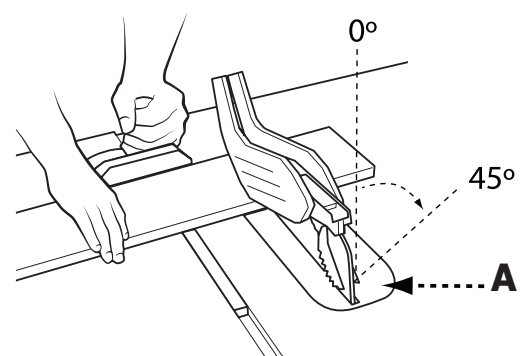

FIGURE 26
Miter crosscutting is the same as crosscutting except the miter angle (B) is set to an angle other than 90° (FIGURE 26).